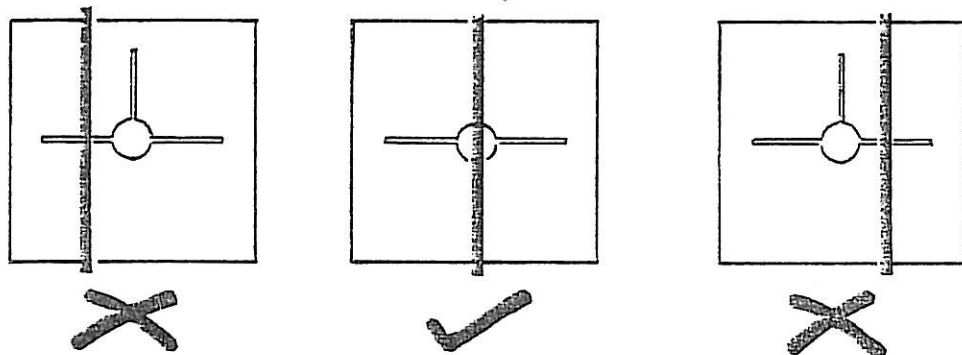

Fig. 14
3. Using the knurled adjusting knob on the Headlamp Aligner, align the foresight with the vertical slit on the screen. When the two are directly in line the slit will be hidden by the foresight (see Fig. 14).